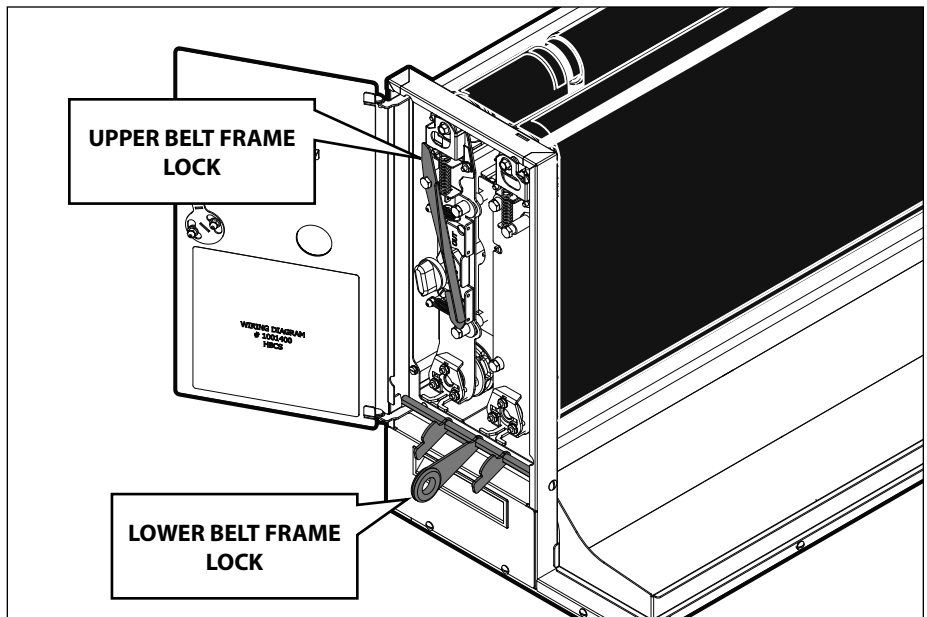

Figure 14. Conveyor Locks
6. Return the Front and Rear Belt Rollers to full tension by lifting them up so each roller locks into place (Figure 14).